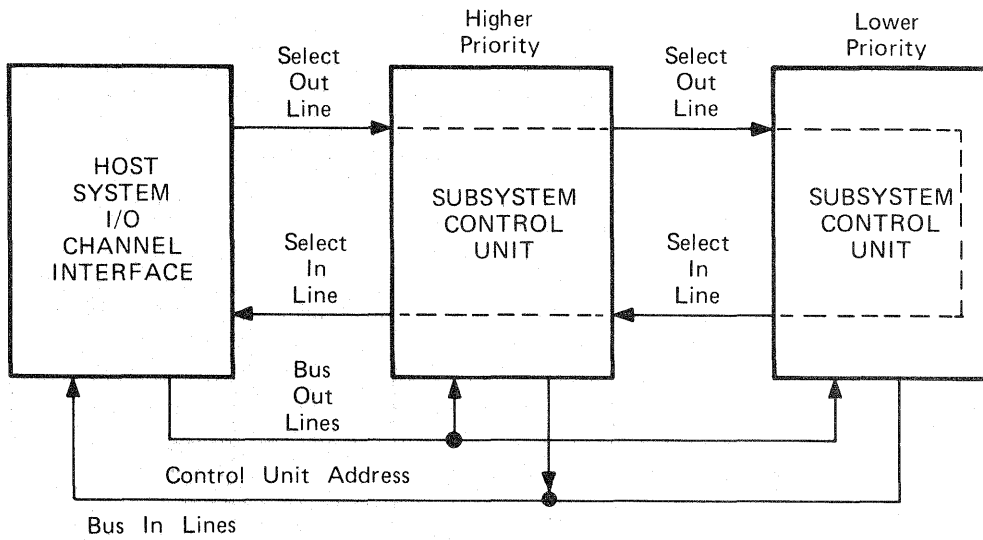

Figure 3-2. I/O Interface Priority Selection
When an operation starts, the channel applies a signal to the select-out line. The SELECT OUT signal passes serially through all disk control units in order of priority. The SELECT OUT signal travels to the disk subsystem with the highest priority. The selection priority is (1) all control units on the select out lines in order of attachment from the channel to the end of the string of control units, followed by (2) all control units on the select in lines in order of attachment from the end of the string to the channel (see Figure 3-2.).
Each I/O operation between the host I/O channel and the disk control unit requires a certain sequence of events to occur that the I/O channel controls. A system of interlocking inquiry and response signals through signal lines (see Figure 3-2) controls an orderly flow of data between the channel and the disk control unit.